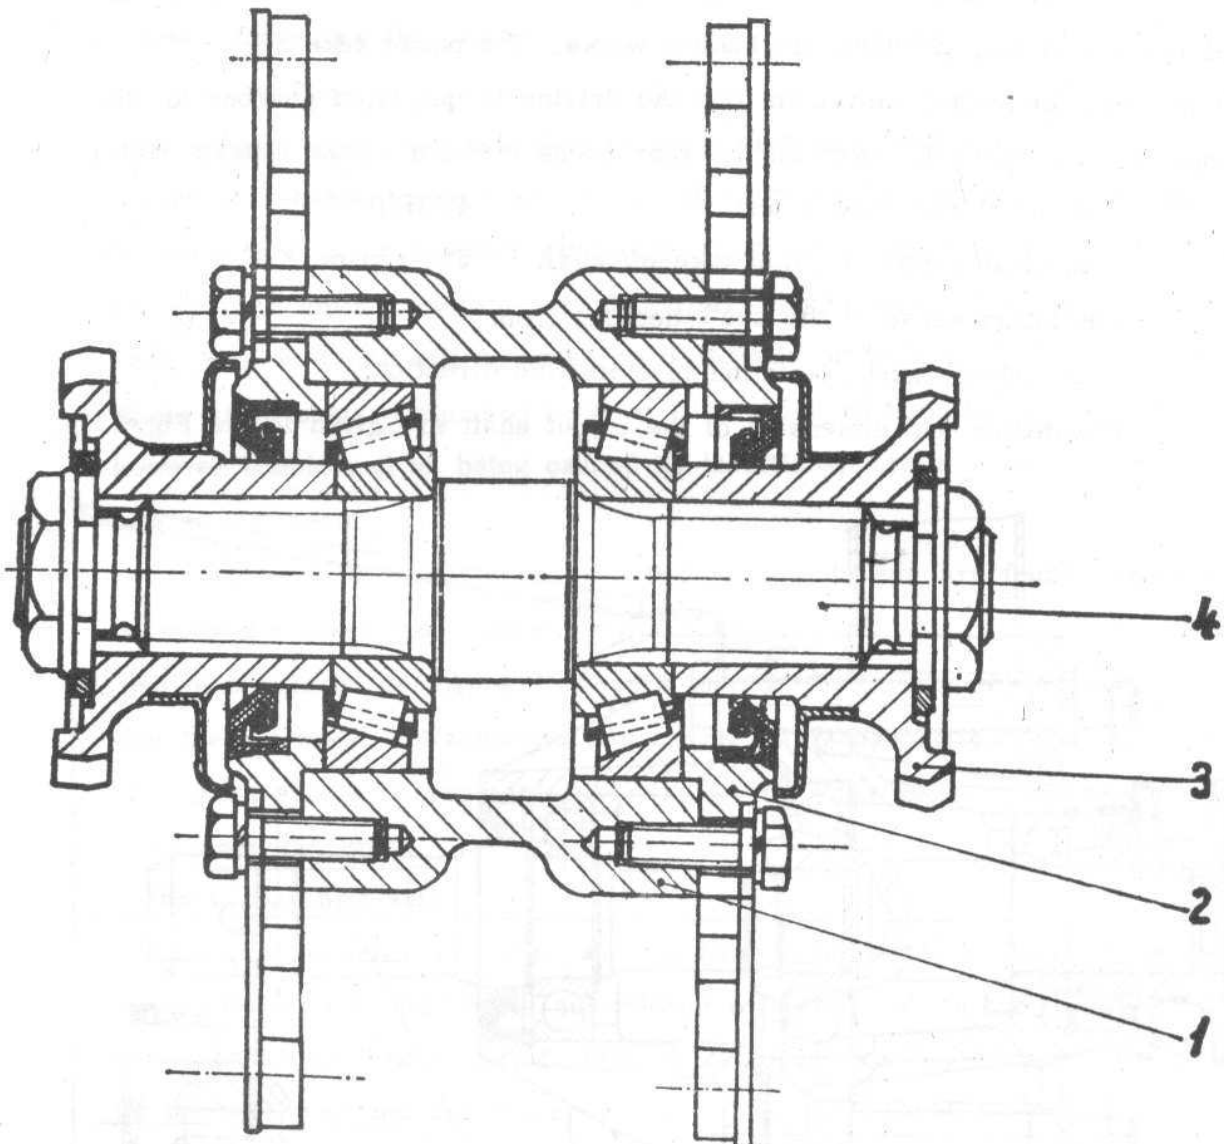

Fig. 4.139. PROPELLER SHAFT INTERMEDIATE BRACKET
- The driving cardan shaft, connecting gearbox with intermediate bearing (see Fig. 4.139).
Remove both cardan shafts from intermediate bearing flanges (see Fig.4.139)